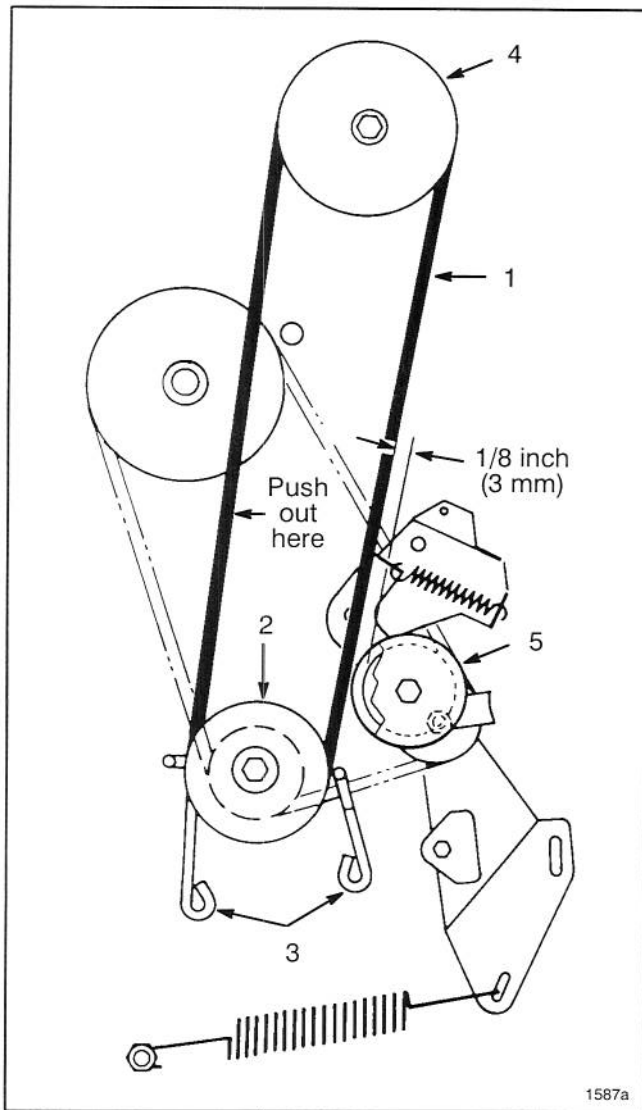

Figure 17
7. Loosen capscrews securing (2) engine pulley belt guides and move guides away from pulley. Remove deck drive belt from engine pulley (Fig. 17).
9. Remove (2) screws securing belt guide to mower housing and remove belt guide. Remove belt from pulley.
12. Pushing out on belt (removing slack), as shown in fig. 17, check clearance between outside of belt and inside of idler pulley (Fig. 17). Clearance should be approximately 1/8 inch (3mm).